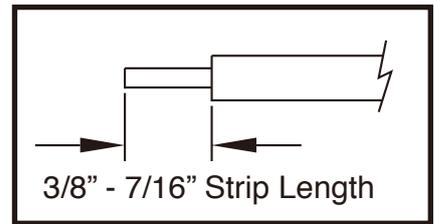

FIGURE 4
10. **Cut supply cable to desired length.** Strip black and white wire leads with wire strippers to expose 3/8"-7/16" of bare metal. **See Fig. 4.**
11. **Using Wirenuts (3) provided, connect supply** (house) wires to fixture wires - white to white, black to black, and green to green or bare copper ground wire.